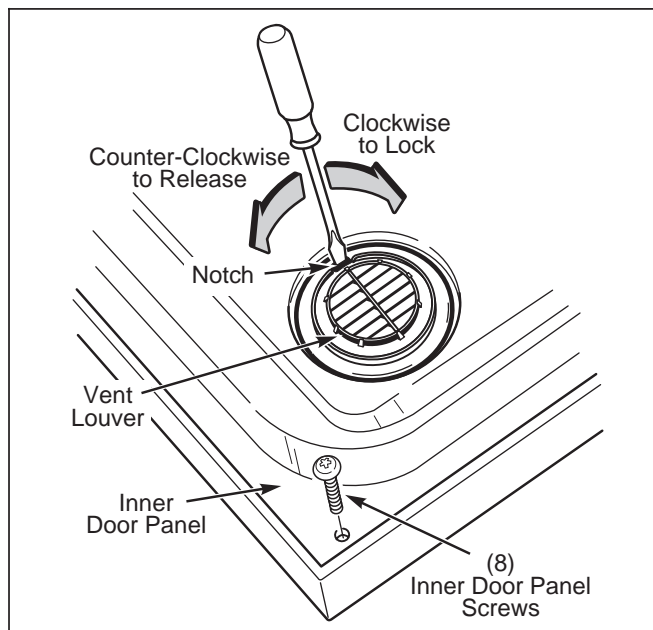

Figure 1
2. Refer to Figure 1. Open dishwasher door and insert the end of a screwdriver into the notch in the vent louver. Push counter-clockwise to rotate louver approximately 1/8 turn to release it. Remove louver and set aside for later reinstallation.
3. Remove eight (8) screws around perimeter of the inner door panel and remove panel. See Figure 1.
3. Reinstall inner door panel. Align it in place over the vent assembly, and reinstall eight (8) screws around the inner door panel perimeter. See Figure 1.
5. Insert the end of a screwdriver into the notch in the vent louver. Push clockwise to rotate louver approximately 1/8 turn to lock it in position. See Figure 1.